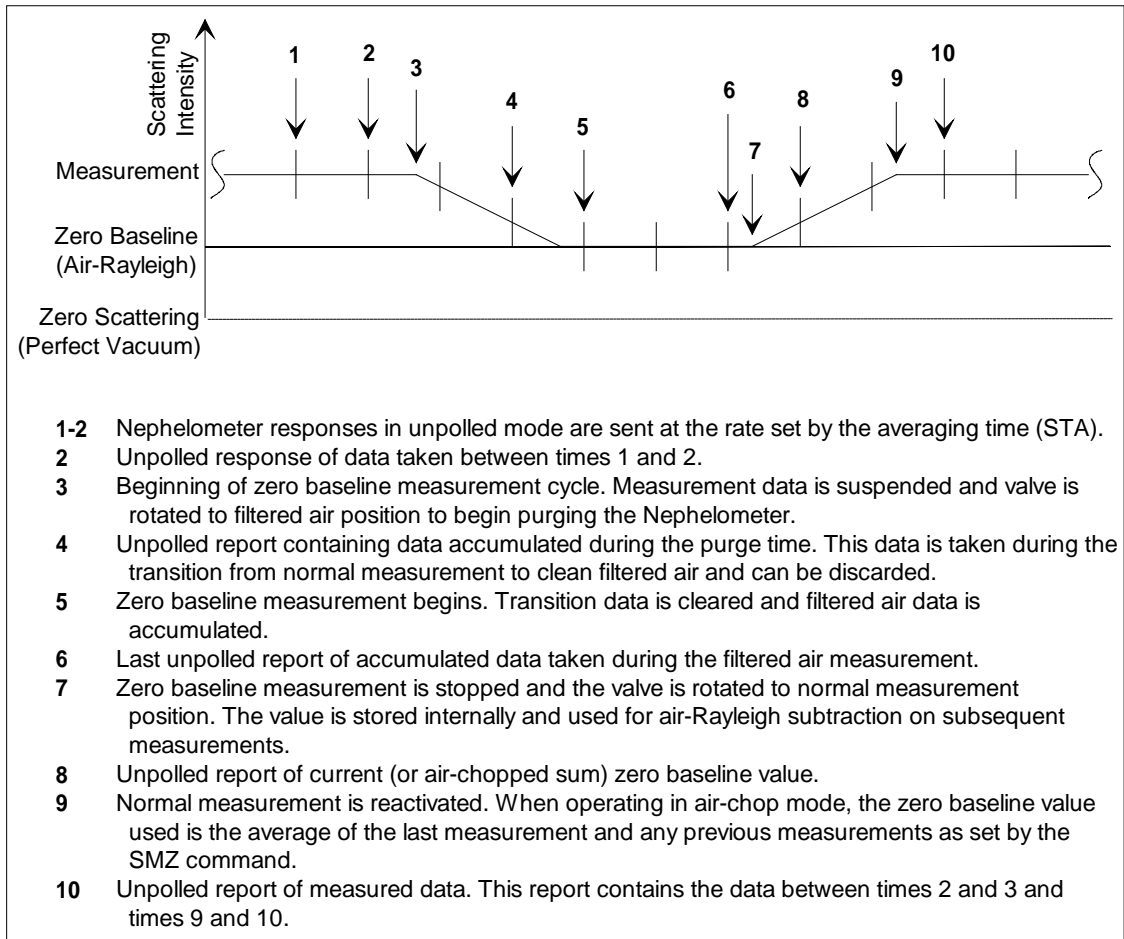
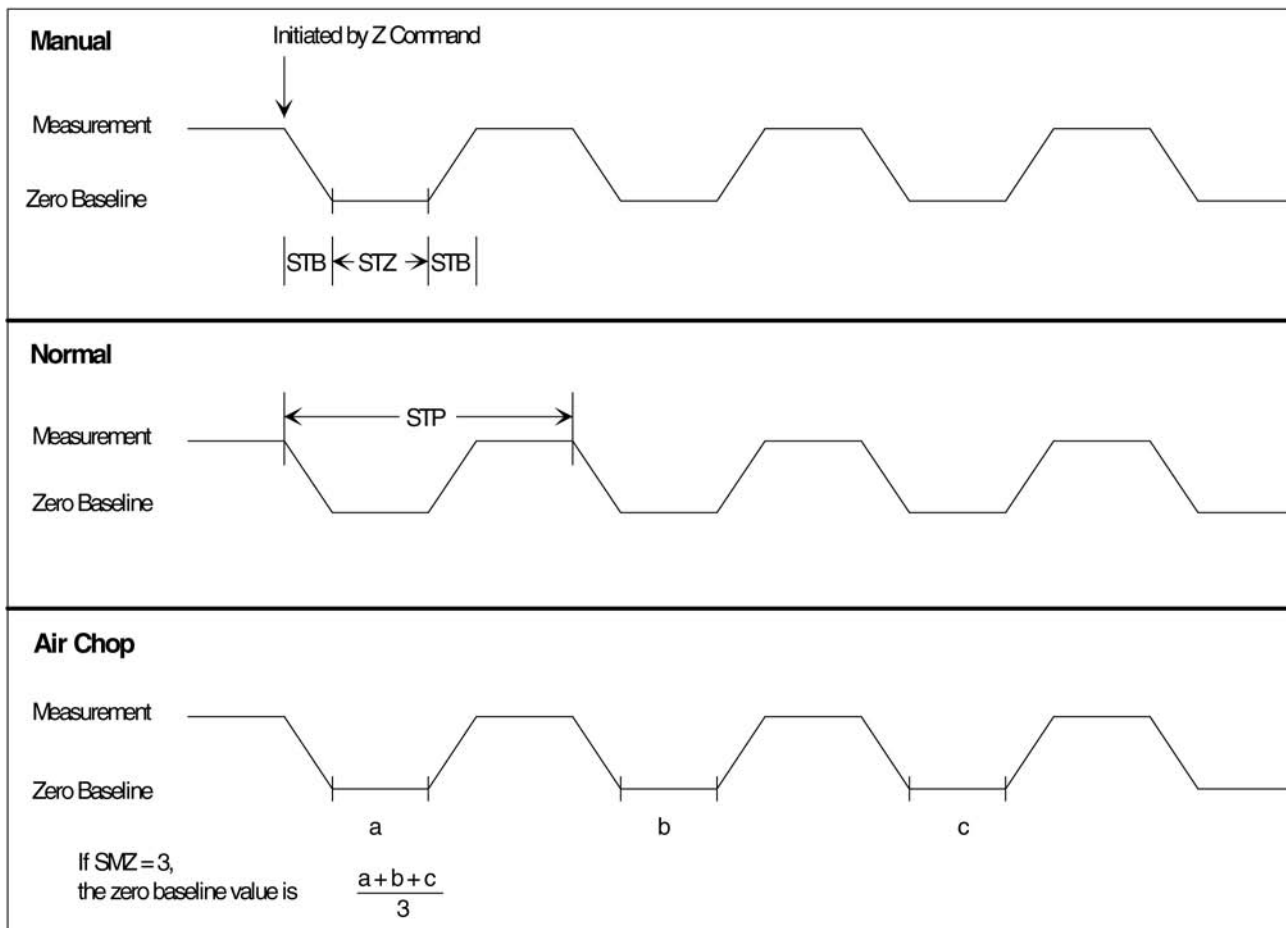

Figure 6-2
Figure 6-3
SMZ see also STB STP STZ SZ V Z	<p>Set Mode for autoZero baseline measurement</p> <p>SMZ sets the method used to zero baseline drift using filtered air. See Figures 6-2 and 6-3.</p> <p>Note: The duration of zero is set by the STZ command.</p> <p>SMZv</p> <p>where:</p> <p>v = autozero mode (0 to 24)</p> <p>0 = manual mode where a zeroing of the baseline only occurs when a Z command is given.</p> <p>1 = normal mode where an autozero is performed at intervals set by the STP command.</p> <p>2 - 24 = air-chop mode, which is similar to normal mode (1), except that the last "v" measured autozero baselines are averaged together.</p> <p>Examples</p> <p>To set the autozero mode to air-chop, with a baseline zero value based on the average of the last twelve readings:</p> <p>SMZ12</p> <p>To echo the autozero mode:</p> <p>SMZ</p>
STA sets the running average length, in seconds, over which the sample is measured. STA also affects the time between unpollled reports. See Figure 6-2.
STB see also SMZ STP STZ SZ V Z	<p>Set Time to Blank valve</p> <p>STB sets the blanking time, in seconds, when the valve is switching. This includes the turning time of the valve as well as the purge time of the Nephelometer. During the STB interval, no data is taken. See Figure 6-2 and Figure 6-3.</p> <p>STBttt</p> <p>where:</p> <p>ttt = blanking time (5 - 999 seconds)</p> <p>Note: The STB value must be less than (STP - STZ)/2</p> <p>Examples</p> <p>To set the blanking time to 30 seconds:</p> <p>STB30</p> <p>To echo the blanking time:</p> <p>STB</p>
STP see also SMZ STB STZ SZ V Z	<p>Set autozero Period</p> <p>STP sets the time, in seconds, between autozeros. The value set with this command is only used if the Nephelometer autozero mode is normal or air-chop (SMZ > 0). See Figure 6-2 and Figure 6-3.</p> <p>STPtttt</p> <p>where:</p> <p>tttt = the range (10 - 9999 seconds)</p> <p>Note: The STP value must be greater than 2(STB) + STZ.</p> <p>Examples</p> <p>To set the time between autozeros to 3600 seconds:</p> <p>STP3600</p> <p>To echo the autozero period:</p> <p>STP</p>
STZ see also SMZ STB STP SZ V Z	<p>Set Time for autoZero measurement</p> <p>STZ sets the time, in seconds, the Nephelometer spends measuring filtered air during a zero baseline measurement. See Figure 6-2 and Figure 6-3.</p> <p>STZtttt</p> <p>where:</p> <p>tttt = the range (1 - 9999 seconds)</p> <p>Note: The STZ value must be less than STP - 2(STB).</p> <p>Examples</p> <p>To set the zero baseline measurement to 300 seconds:</p> <p style="padding-left: 20px;">STZ300</p> <p>To echo the zero baseline measurement:</p> <p style="padding-left: 20px;">STZ</p>